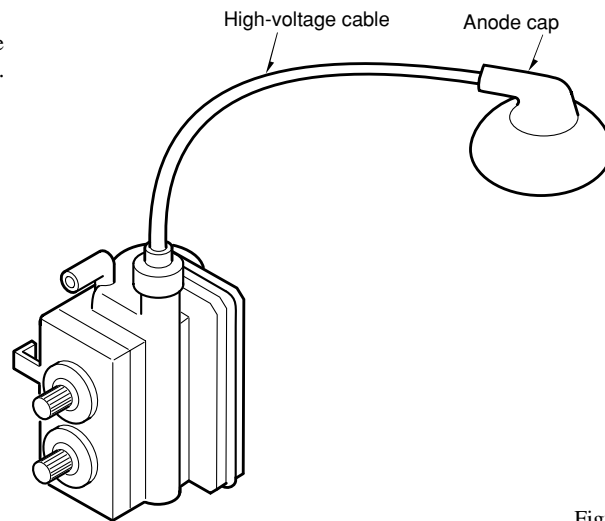

Figure 3-3
- (3) Eliminate twisting, etc. of the high-voltage cable and arrange it so that no twisting occurs. (See Figure 3-3)